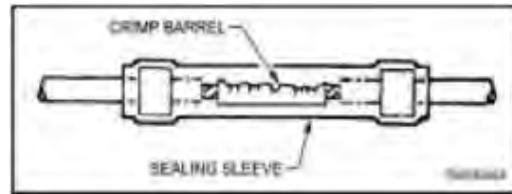

Figure 179
18. Center primary wire heat sleeve over splice as shown in Figure 179.